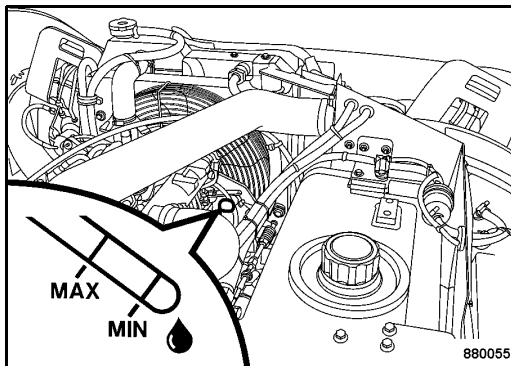

Fig. 119
- Pull the dipstick (Fig. 119) out, wipe it off with a lint-free, clean cloth and reinsert it until it bottoms.